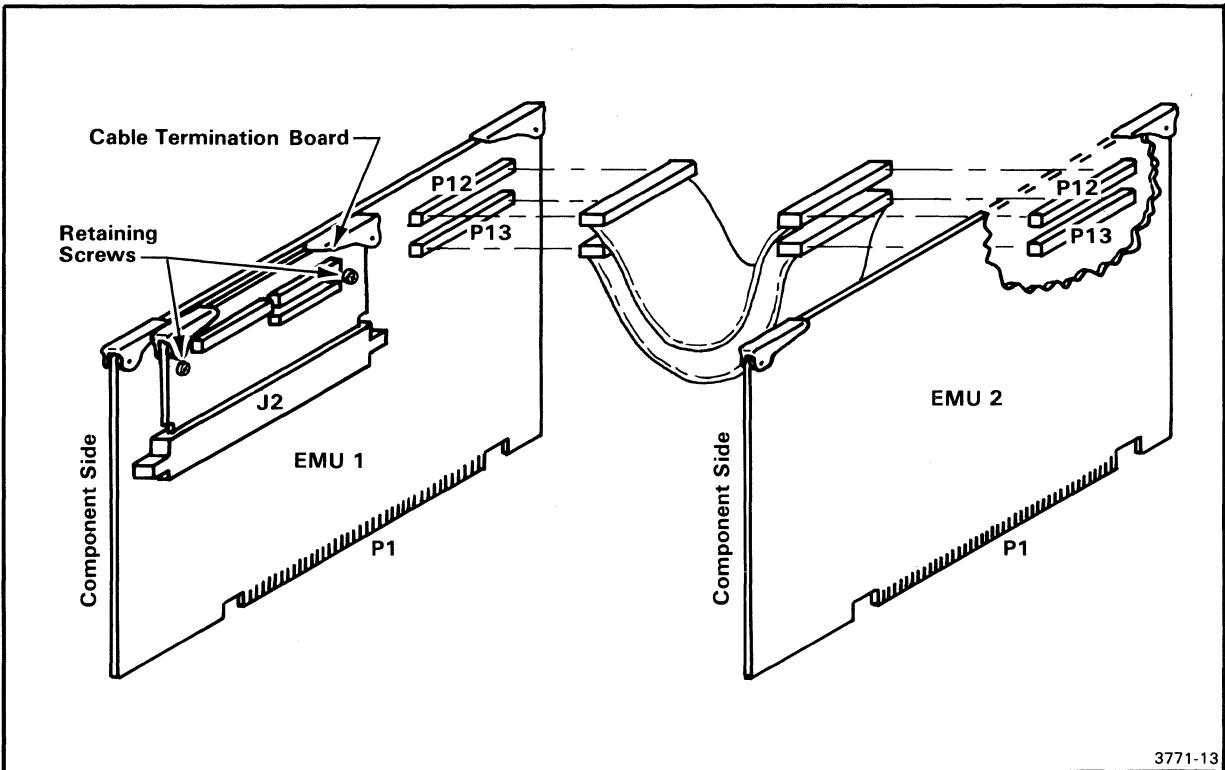

Fig. 9-3. EMU 1/EMU 2 interconnection with Cable Termination board.
8. Connect EMU 1 (with Cable Termination board) to EMU 2, using the two short ribbon cables provided. Dress the cables as illustrated in Fig. 9-3.